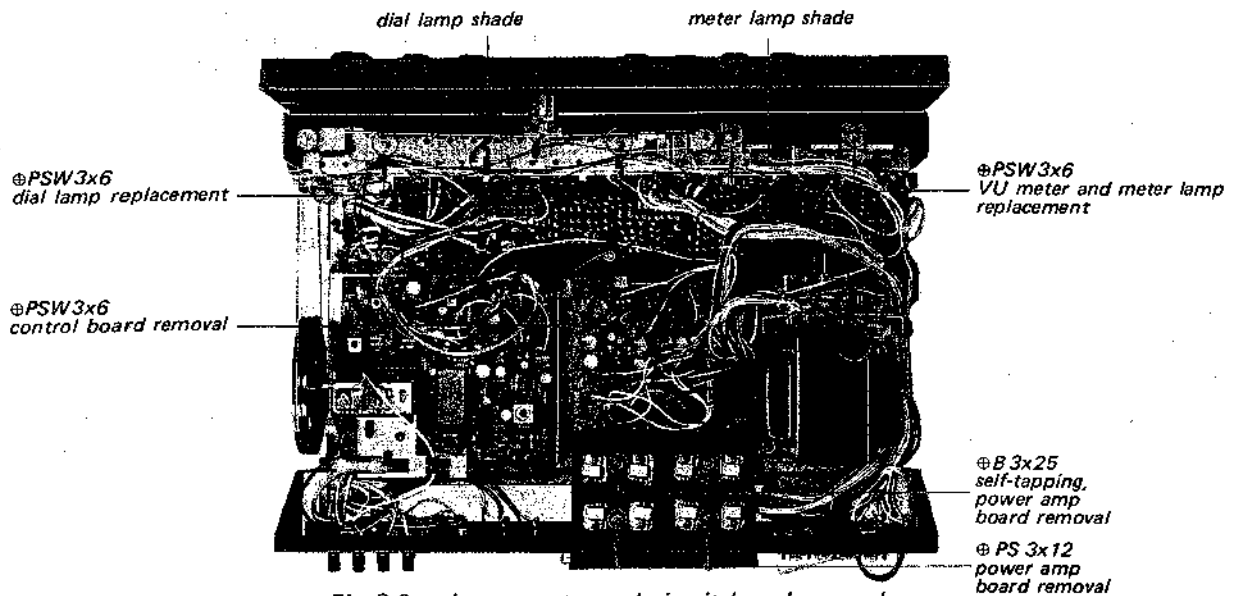

Fig. 2-6. Lamp, meter and circuit board removal
2. Remove the meter lamp shade after taking out the two screws shown in Fig. 2-6.
2. Remove the dial lamp shade after taking out the two screws shown in Fig. 2-6.
2. Remove the four screws shown in Fig. 2-6.
5. Remove the control board after taking out the three screws shown in Fig. 2-6.